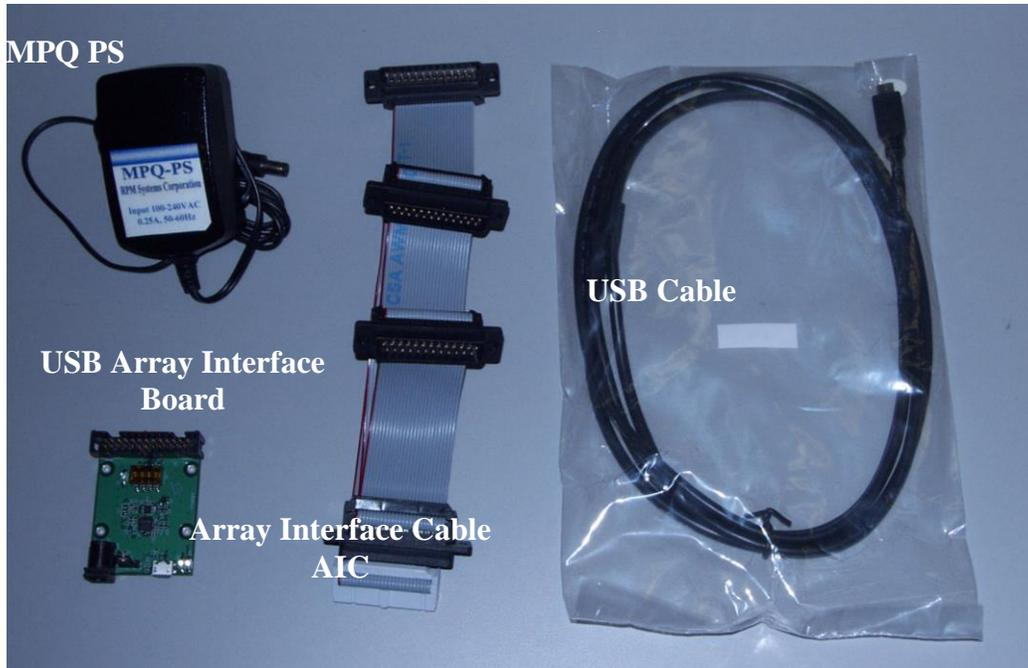

Figure 1
*Note: The MPQ-AIC-x cable is made to order(x = the number of connectors). The one shown in Figure 1 is a MPQ-AIC-4 capable of supporting up to 4 MPQ Programmers.